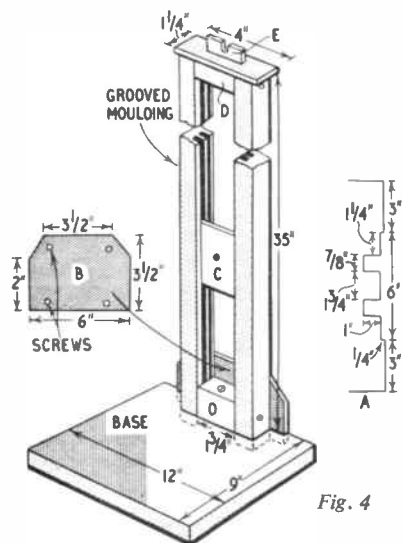
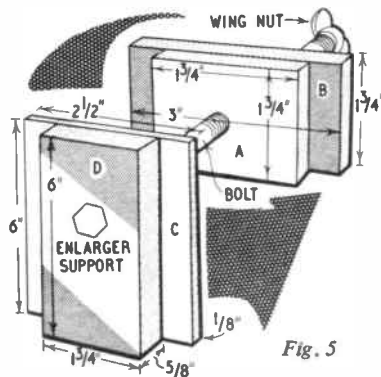

Fig. 4
Fig. 5
However, it is much more satisfactory and convenient to use a vertical enlarger and the construction of this type is shown in Fig. 4. It consists of a baseboard to which is attached a column of grooved moulding. The enlarger slides up and down in the moulding.
The baseboard is a piece of 1½ in. thick wood measuring at least 12 in. by 9 in., the heavier the better. The column consists of two 1 yard lengths of grooved moulding as sold by handicrafts stores. It is usually 1 in. by ¾ in., and has two grooves, although only one is used for the present purpose. One side of the baseboard is cut as at A in Fig. 4, and the moulding is then jointed into the baseboard. A strengthening piece B is added to ensure rigidity. This piece is cut from ¾ in. ply. Two 2 in. screws pass through the lower holes in B and then through the moulding and into the baseboard. Two blocks of wood, 1½ in. long, are screwed to the top and bottom of the column as at D.
Fig. 5 shows the enlarger mounting. A piece of ¾ in. plywood, size 6 in. by 2½ in., shown at C in Figs. 4 and 5, slides up and down in the grooved moulding. To the front face of this piece is attached a thick piece of wood (D) to hold the enlarger. A bolt passes through these two pieces, the head being sunk into part D to prevent it rotating. The bolt then passes through parts A and B, which move freely along it. These two pieces, glued together, slide up and down at the back of the column. When the enlarger is in the desired position, a wing-nut screws down and secures the enlarger to the column.
The method of attaching the camera to piece D in Fig. 5 will depend on the type of camera. The one described was attached by drilling two holes in the baseplate of the camera and then affixing it to D with two screws.